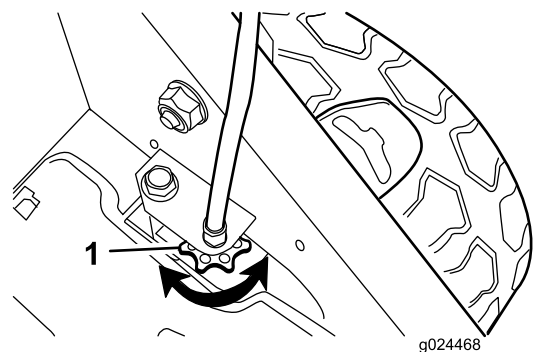

Figure 22
- If the wheels do not spin when you engage the self-propel-drive bar, the traction belt is too loose. Rotate the wheel-drive-control knob (Figure 22) clockwise 1 turn and repeat steps 4 through 6.
- If the wheels spin before you fully engage the self-propel-drive bar, the traction belt is too tight. Rotate the wheel-drive-control knob (Figure 22) counterclockwise 1 turn and repeat steps 4 through 6.